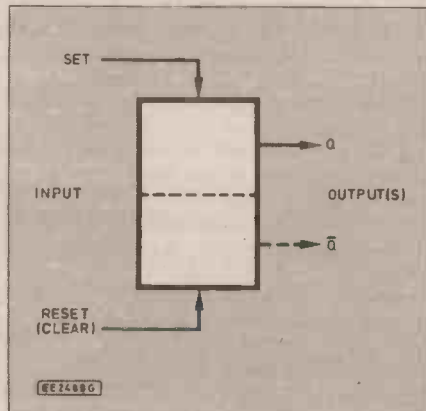

Fig. 5.2. Symbol for an S-R bistable (flip-flop).
**T** Yes. Now first, let's note the circuit symbol for our bistable or flip-flop. It's often drawn like this (Fig. 5.2). Notice that it's symmetrical. Because the outputs are always the opposite (inverse) of each other, and the symbol Q is used for the upper one, what would you expect for the other?